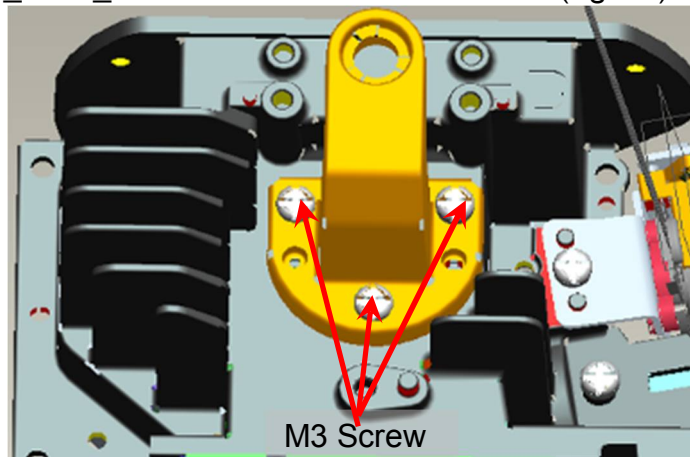

Fig. 6-2
- B. Assemble “HOLDER_LENS_SHIFT” and lock with screws well. (Fig. 6-2)